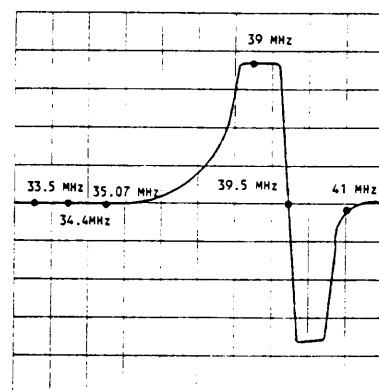

Fig 4.
- 4: Adjust T101 to obtain the AFC waveform as same as Fig 4.